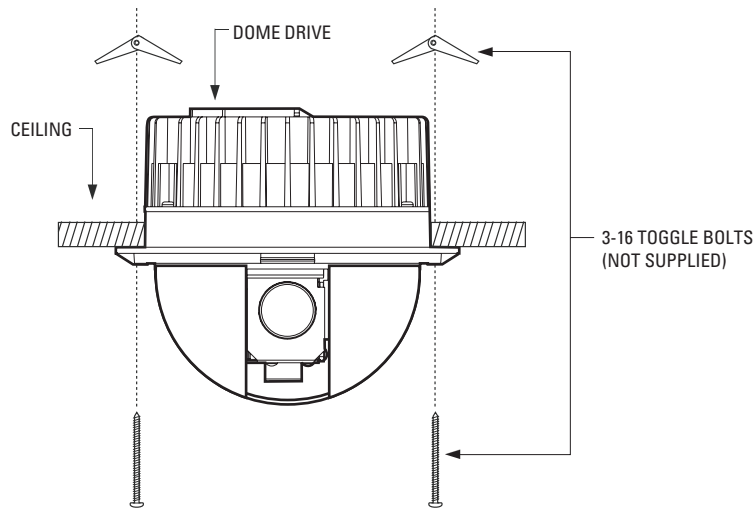

Figure 9. In-Ceiling Installation to a Fixed Ceiling
5. Attach the dome drive to the ceiling with the two 3-16 toggle bolts (not supplied). Refer to Figure 9.